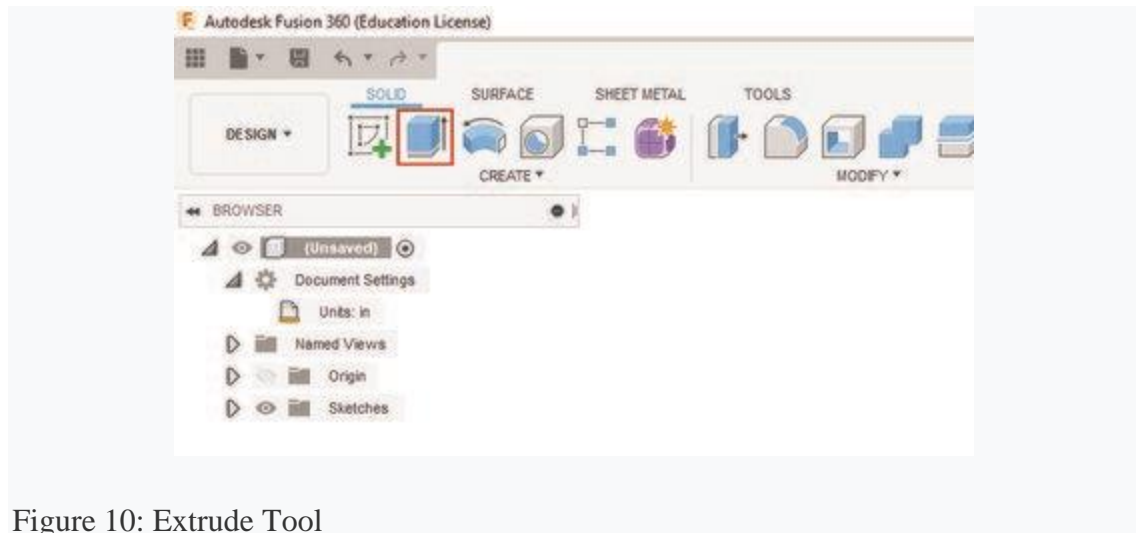

Figure 10: Extrude Tool
- a. Select the “Extrude” tool from the “Create” section of the toolbar (Figure 10).